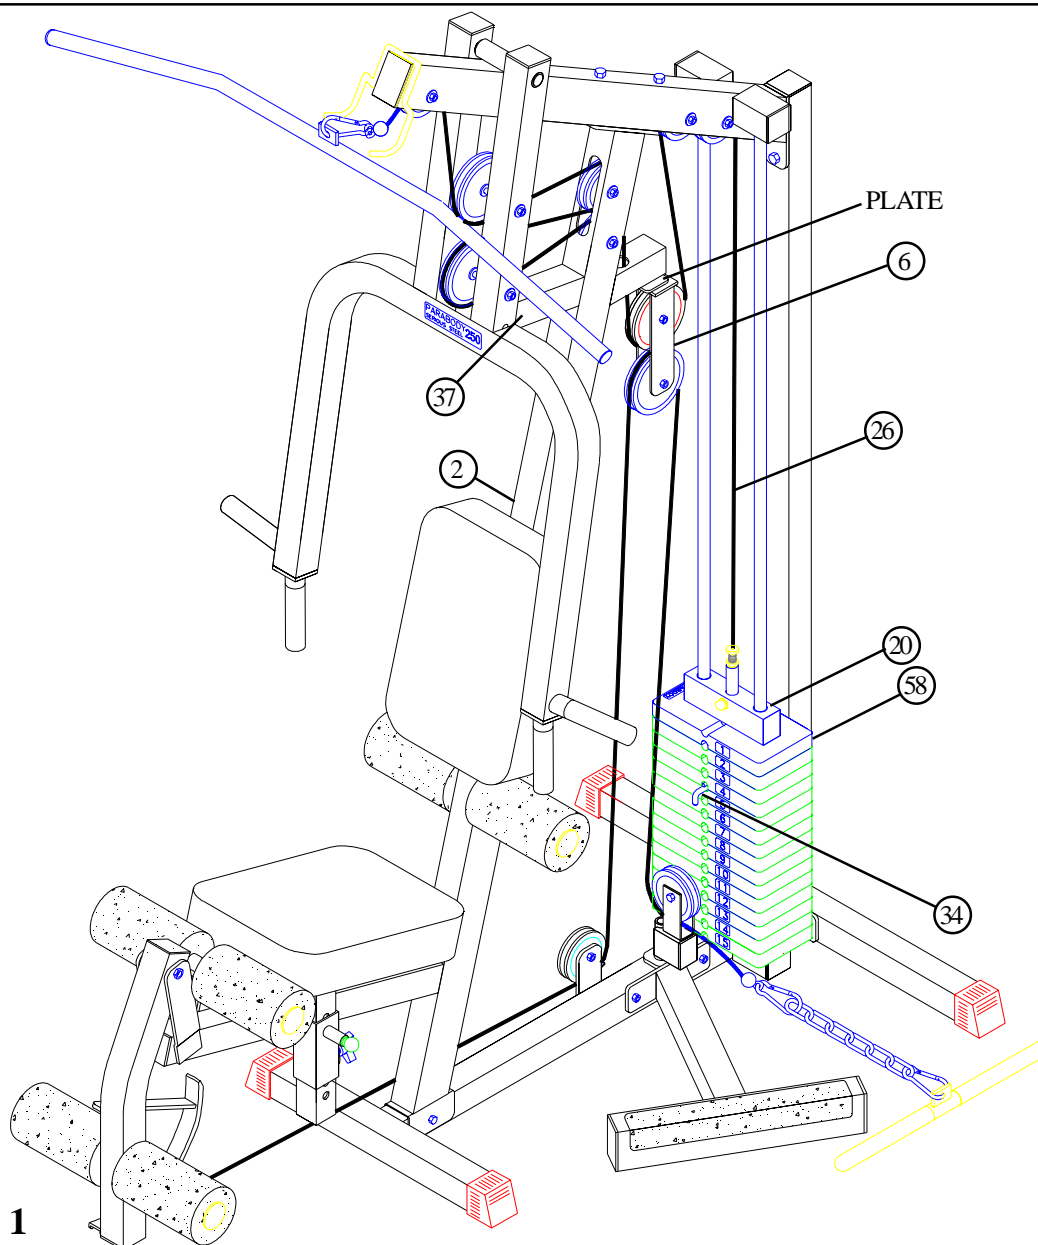

FIGURE 1
- If upon completion of assembly, the HEAD PLATE (20) does not sit on top of the first WEIGHT PLATE (58), push the HEAD PLATE (20) down, insert the WEIGHT STACK PIN (34) and perform several repetitions at the press station. This will relax the cable system and prevent the HEAD PLATE (20) from lifting up. See FIGURE 1.
- If after completing previous step, the HEAD PLATE (20) still does not sit on top of the first WEIGHT PLATE (58) or if there is excess slack in the cable system, adjust the threaded end of the WEIGHT STACK CABLE (26) and the ADJUSTABLE GLIDE (37) accordingly and retighten the jam nut. See FIGURE 1.
- For maximum performance, the HEAD PLATE (20) should just barely sit on the top WEIGHT PLATE (58) and the FLOATING PULLEY BRACKET (6) should firmly contact the PLATE on the FRONT UPRIGHT (2). See FIGURE 1.